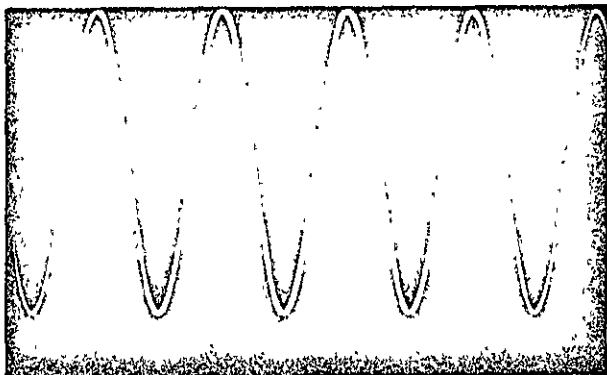

Figure 3-8. INTERLEAVER AUD INPUT
4. Monitor signal at front panel INTERLEAVER AUD INPUT test jacks. Adjust audio signal generator for a level of 1 V pp at 1 kHz (refer to Figure 3-8).